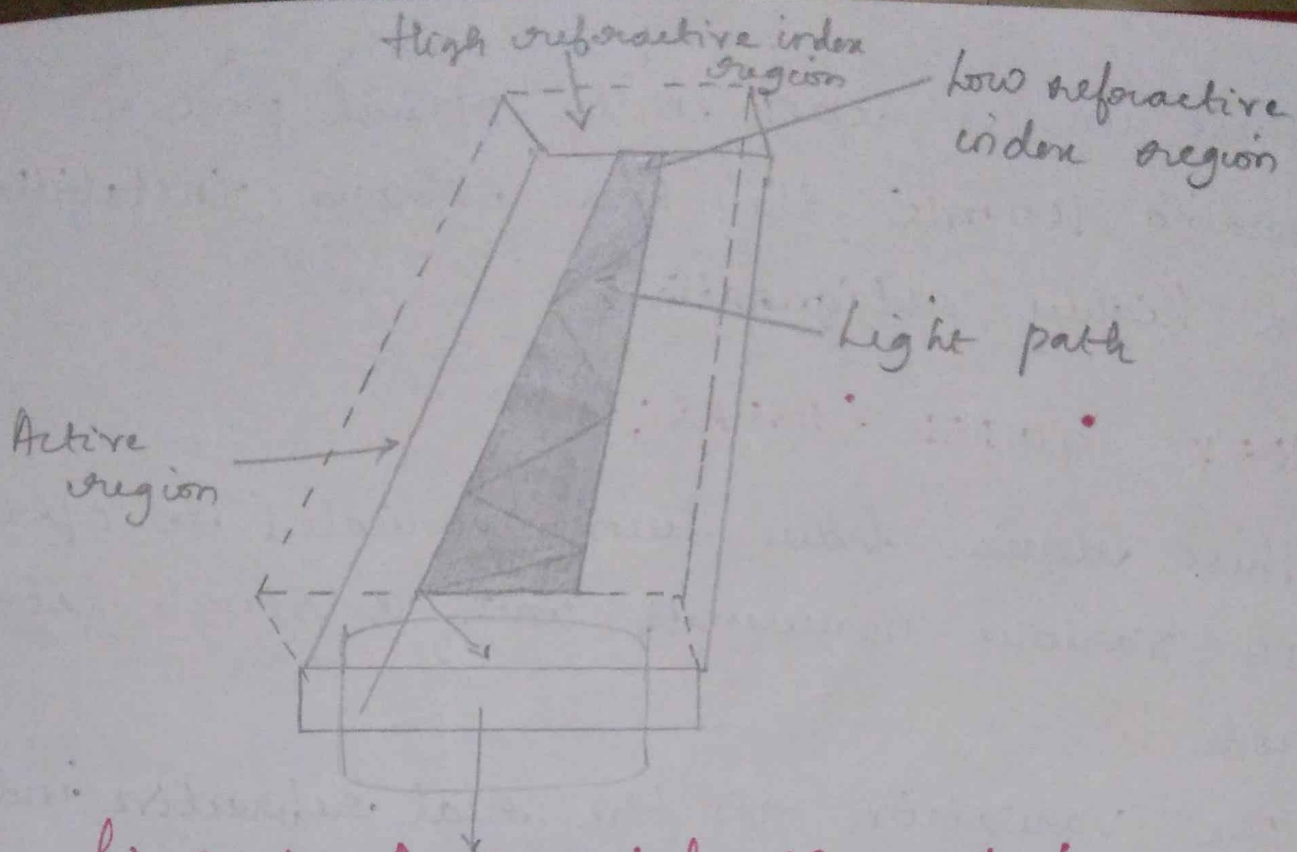

Fig 3: 11 Positive index waveguide laser
- * This radiation loss appears in the far-field radiation pattern as narrow side lobes to the main beam as shown in the fig 3:
* Empirical expression that shows the relationship between I_{th} and temperature (T) is given as,